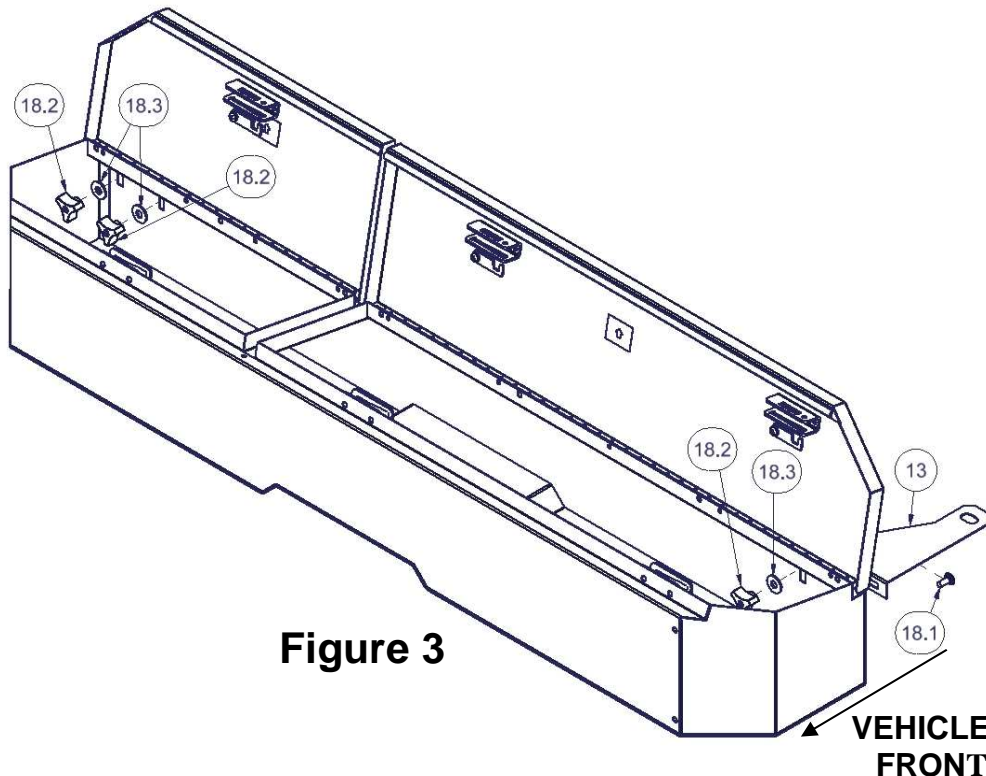

Figure 3
9. Install, **but do not tighten** the #18.3 Washers, and #18.2 Wing Knob Nuts. See **Figure 3**. NOTE: It may be necessary to hold the heads of the #18.1 Carriage bolts to prevent them from falling backward while starting the #18.2 Knob Nuts.